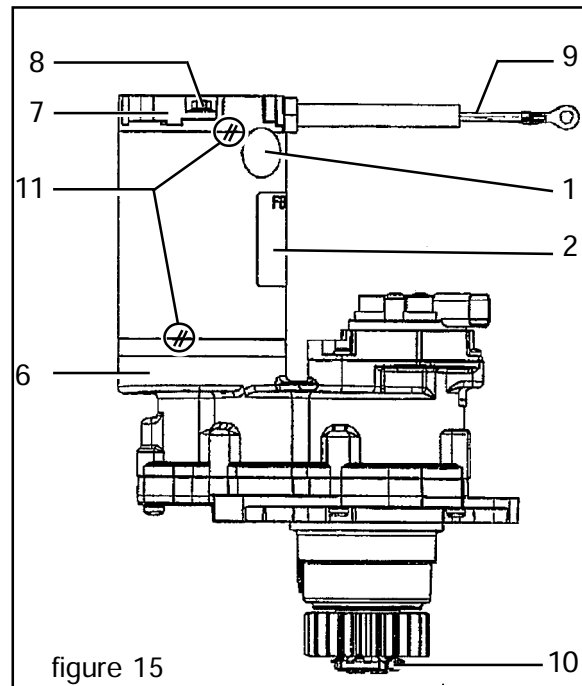

figure 15
Before opening the steering motor, mark the position (mark 11 fig.15) on the flange (7) / body of the motor (2) / steering reduction gear (mark 6 fig.15).
- Remove the 2 (8) and pull the flange (7), collector side.
- Pull the brush holder assy (17)